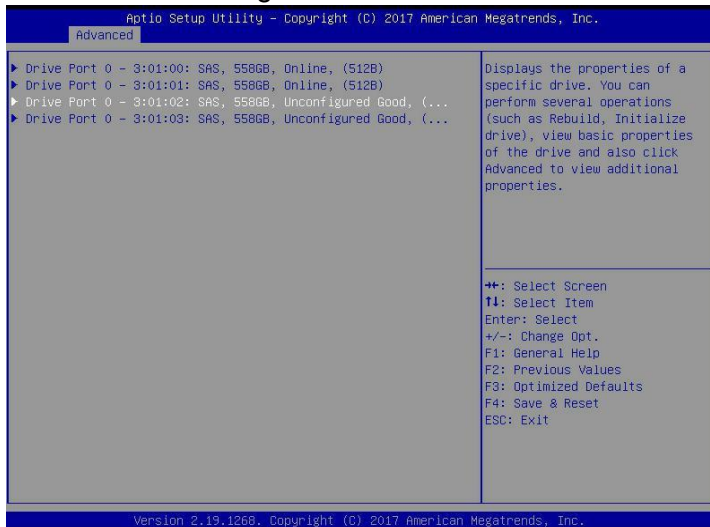

Figure 6-78
- b) Enter the interface shown in Figure 6-78, select the disk to be erased, and press Enter.
✧ Figure 6-78 Disk Management Interface